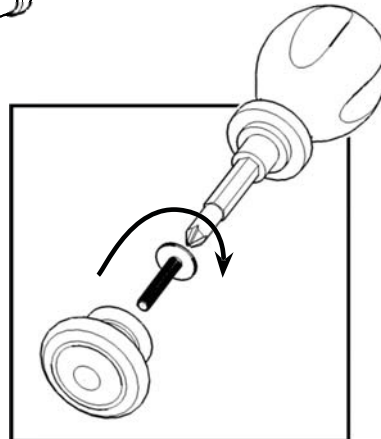

Figure 1
Attach Pull Handles to Doors (N) and (O) using Machine Screws. (See Figure 1)